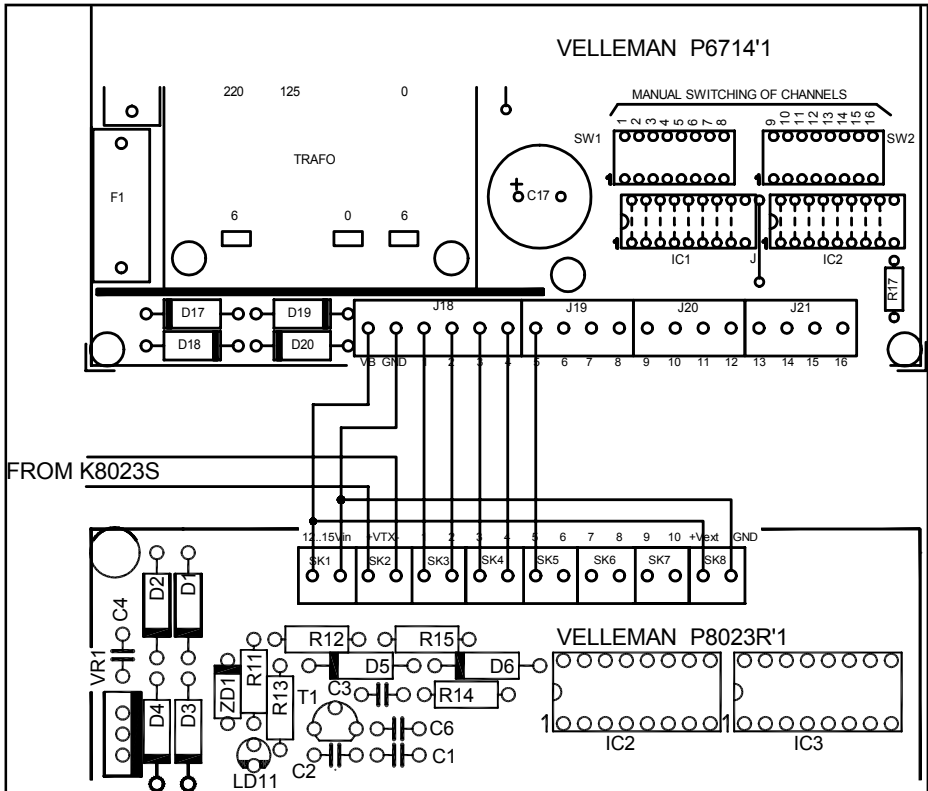

FIG 2.0
2. Connect the board to the 10 channel, 2 wire remote control K8023 (see Fig. 2.0) :